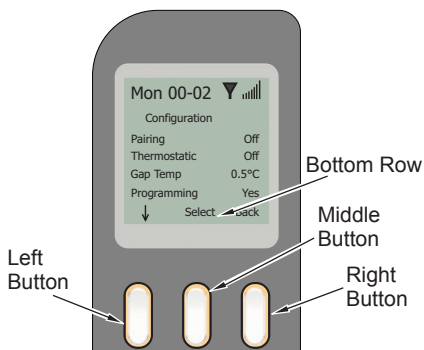

Figure 40 - Screen Changes
The screen changes depending on the input from the buttons, but the bottom row always displays the button function labels (see Figure 40). The functions of each button depends on the options available on the current screen (except for the OFF button which has always the same function).
- RIGHT (Back) button goes back to the previous screen (see Figure 40).
If "Manual" is pressed, the flame setting appears as the selected setting. In the bottom row, ↓ and ↑ appear, indicating that the flame level can be changed by pressing the left or middle button. Pressing "Back" (right button) returns to the initial screen (see Figure 40, page 24).